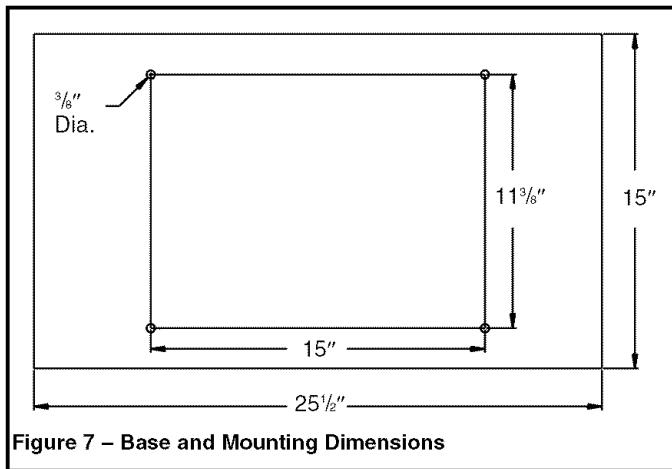

Figure 7 – Base and Mounting Dimensions
- Figure 7 shows the base dimensions and mounting hole dimensions of the planer.